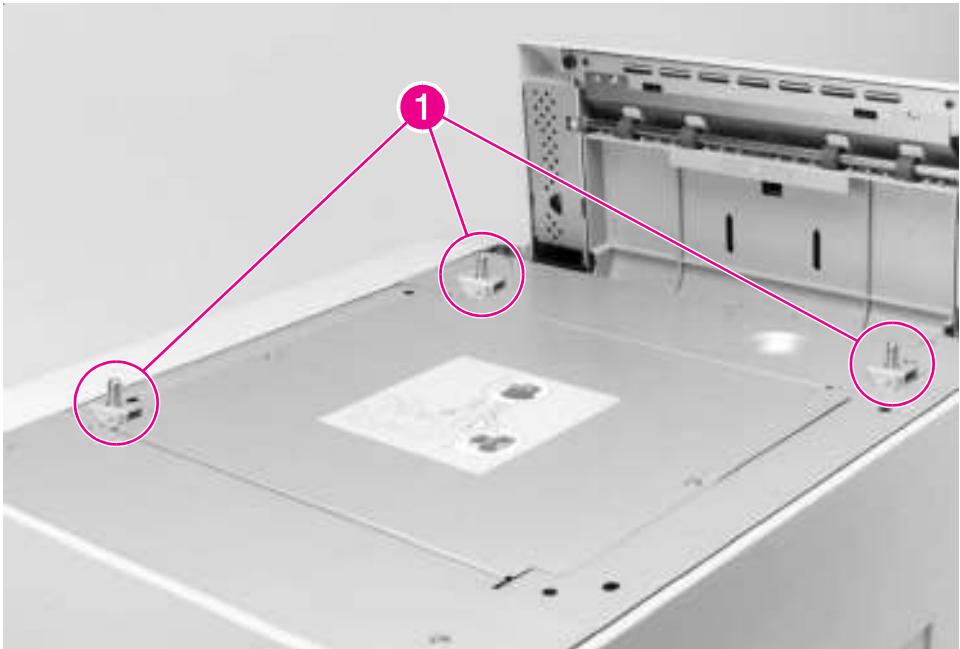

Figure 6-78 2000-sheet Input Tray Locating Pins
- 2 Locate the 3 Locating Pins on the top of the 2000-sheet Input Tray (Figure 6-78, callout 1), and remove the 2 screws on each Locating Pin.